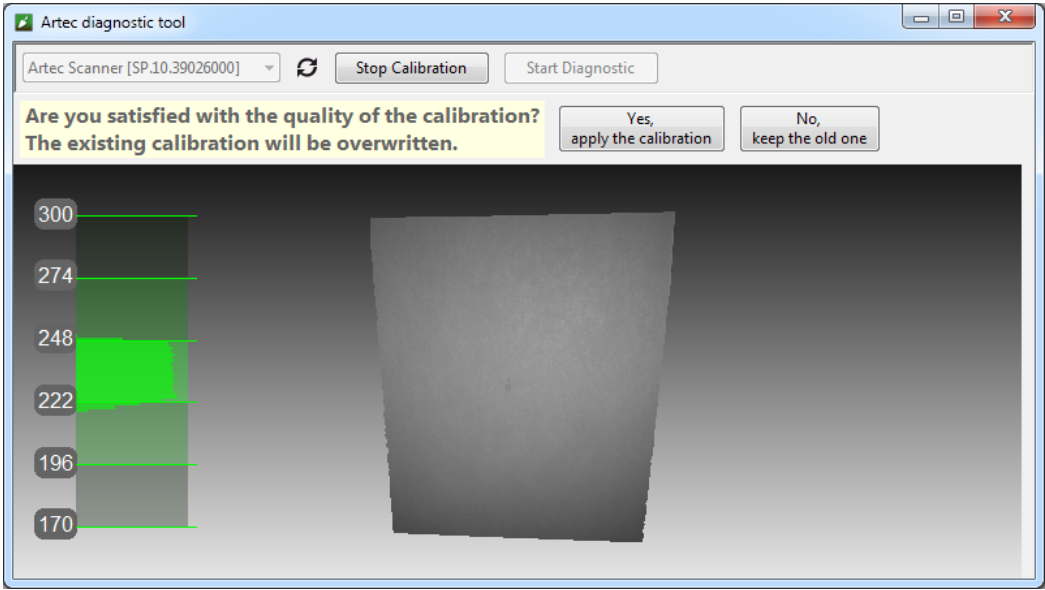

Figure 11.12: Assessing calibration results.
11. Click *Yes, apply the calibration* if no holes appear on the surface and you are satisfied with the reconstruction results. To reject the new calibration, click *No, keep the old one* (see Figure 11.12).